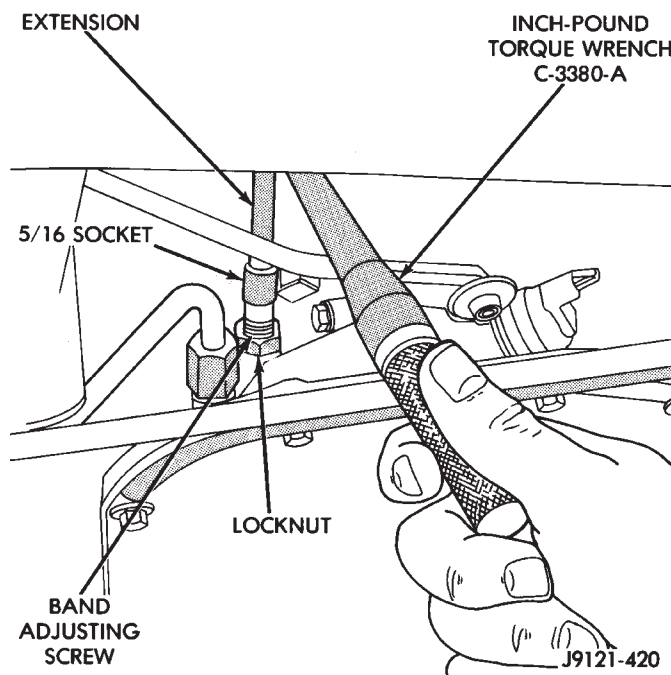

Fig. 6 Front Band Adjustment
(2) Loosen band adjusting screw locknut. Then back locknut off 4-5 turns. Be sure adjusting screw turns freely in case. Lubricate screw threads if necessary.
(3) Tighten band adjusting screw to 8 N•m (72 in. lbs.) torque with inch pound Torque Wrench C-3380-A, a 3-in. extension and 5/16 socket (Fig. 6).